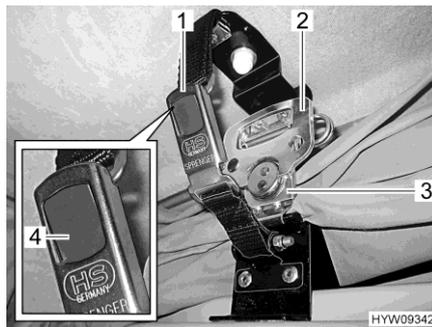

Fig. 41 Latch (sleeping roof)
- On both sides, pull down the quick-action turnbuckle (Fig. 41,3) and hang it into the holding plate.
- On each side, fold out the handle (Fig. 41,2) of the quick-action turnbuckle and turn half a turn in a clockwise direction.
- Plug both parts of the snap lock (Fig. 41,1) together, respectively. The grey push button (Fig. 41,4) engages.